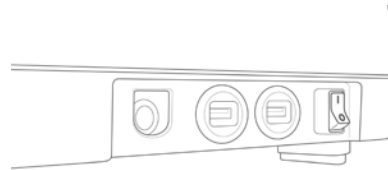

Fig. 11. Genesis System back panel.
1. Power on the Genesis System using the switch found on the back bottom left corner of the instrument (Figure 11).